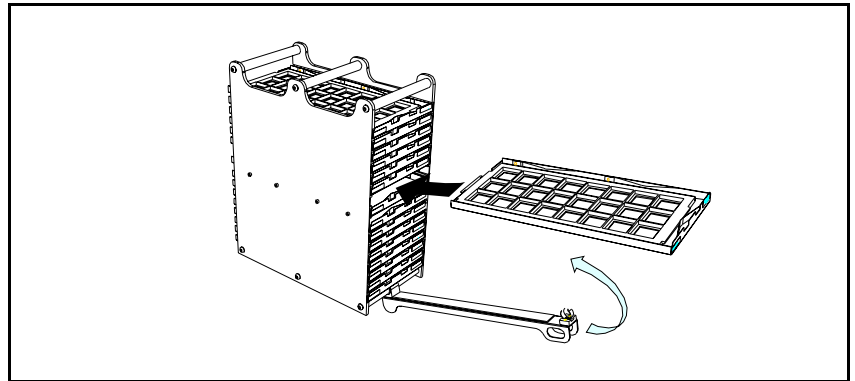

Figure 7-7. Loading a pallet into a cassette.
10. Insert loaded pallets in the cassette, see Figure 7-7. Do not push the pallets all the way in.